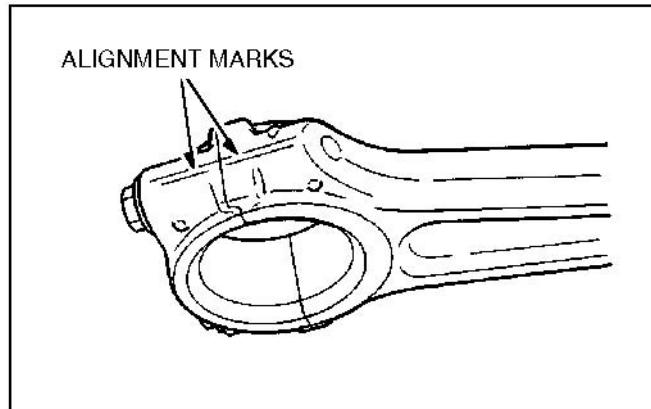

FIGURE 69. ROD ALIGNMENT MARKS
3. When installing the connecting rod caps, make sure the alignment marks register (Figure 69).